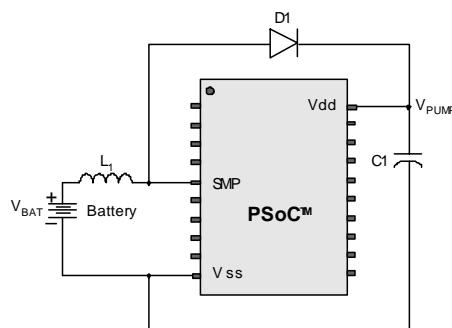

Figure 3-2. Basic Switch Mode Pump Circuit
a. $L_1 = 2 \mu\text{H}$ inductor, $C_1 = 10 \mu\text{F}$ capacitor, D_1 = Schottky diode. See Figure 3-2.